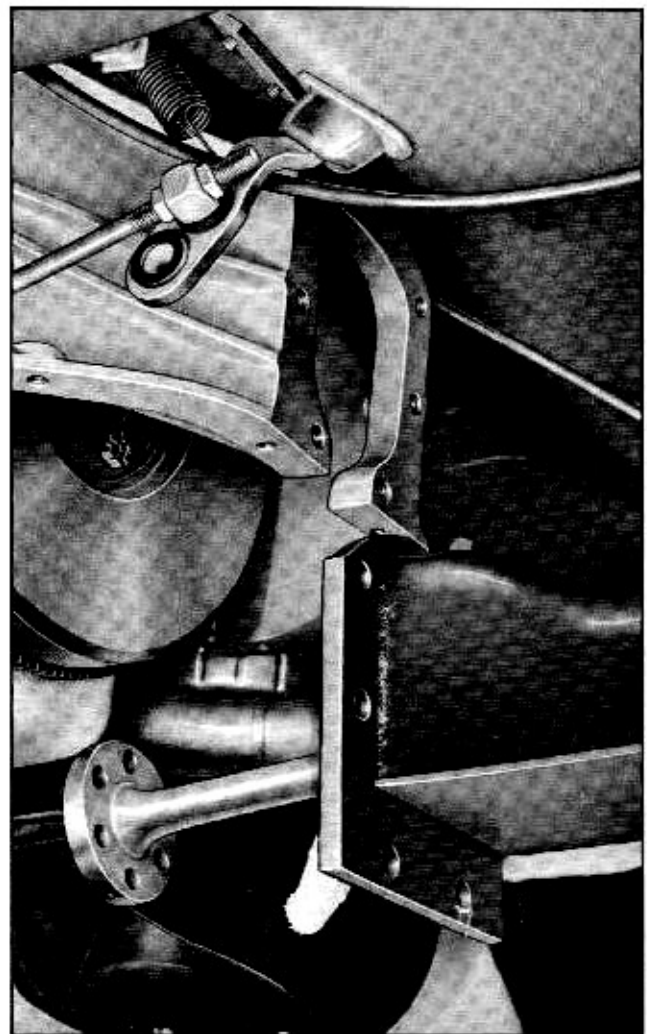

Fig. 4-18 Lowering Torque Tube and Propeller Shaft From Flywheel Housing
11. Pull torque tube and propeller shaft down and away from flywheel housing (Fig. 4-18).